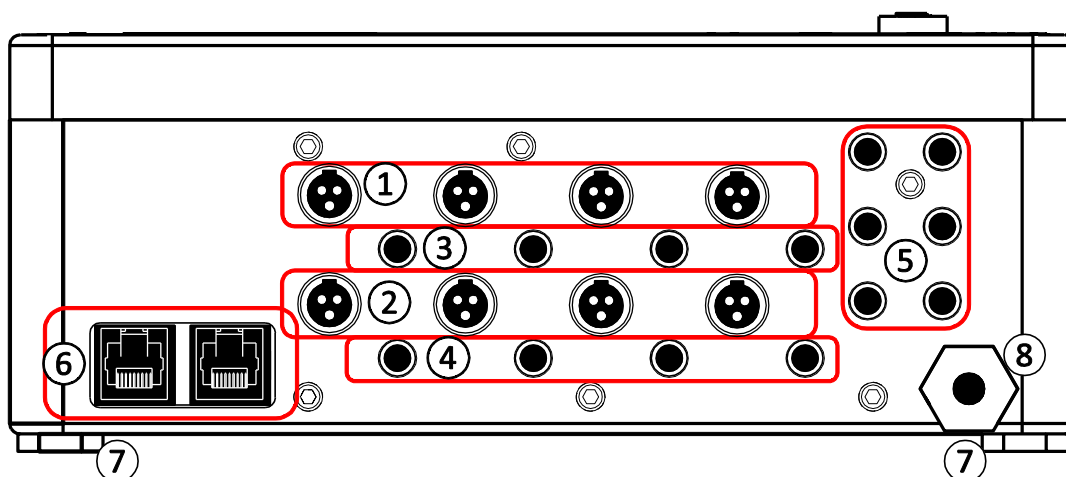

Figure 1.WDC200 Lower Panel
The control box has four feet with holes for attaching the unit to the wall using four round head screws, No 8 x 30mm (1.25 inch). For the location of the mounting feet, refer to Figure 1 on page 10.
- 1 Mark the attachment points for the control unit on the wall. Make sure the cables from the solenoid valves and Piezo touch buttons are of sufficient length to reach the control unit. Refer to figure 1 for the location of the mounting feet.
Table 2. Legend for Figure 1